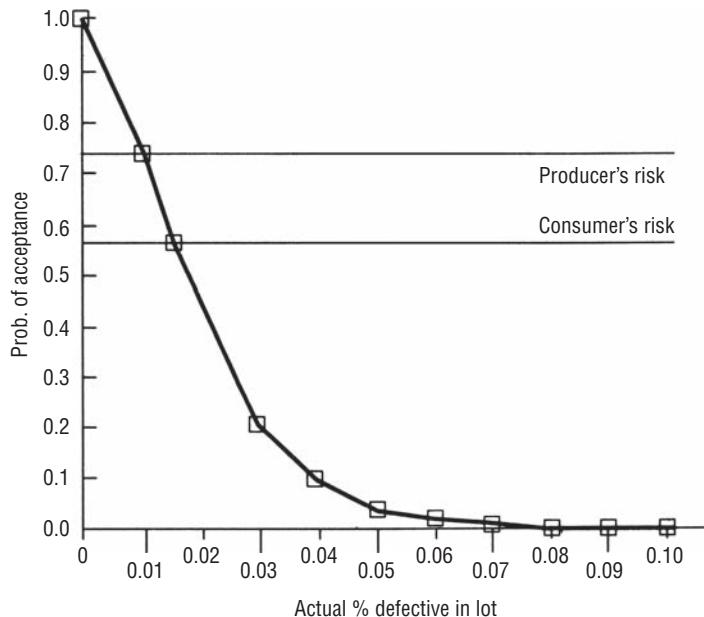

FIGURE 10-11 THE OPERATING CHARACTERISTIC (OC) CURVE FOR MAUREEN'S ACCEPTANCE-SAMPLING SCHEME
The bottom part of the template calculates various probabilities that give Maureen more information about the behavior of her sampling scheme. Cells C11 to H11 originally contained incoming qualities ranging from 0 to 5 percent, by single percentage points. Because our LTPD was 1.5 percent, we replaced the original 2 percent in cell E11 (shaded in color) by 1.5 percent. The additional information can be seen most easily in two graphs that the template can produce. Maureen can get an *operating characteristic* (OC) graph (Figure 10-11). The height of the OC curve tells her the consumer's risk, the probability that her sampling scheme will *accept* a lot from a production process with an input quality read on the horizontal axis. Subtracting that probability from one gives the producer's risk as the input quality varies. As you would expect, the probability that a lot will be accepted falls as production quality becomes worse.